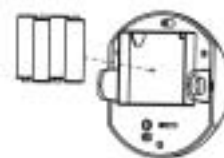

Figure 4. Four (4) "AA" batteries insertion
- Step 4. Insert four (4) "AA" batteries (not included) following the polarity diagram (Figure 4)